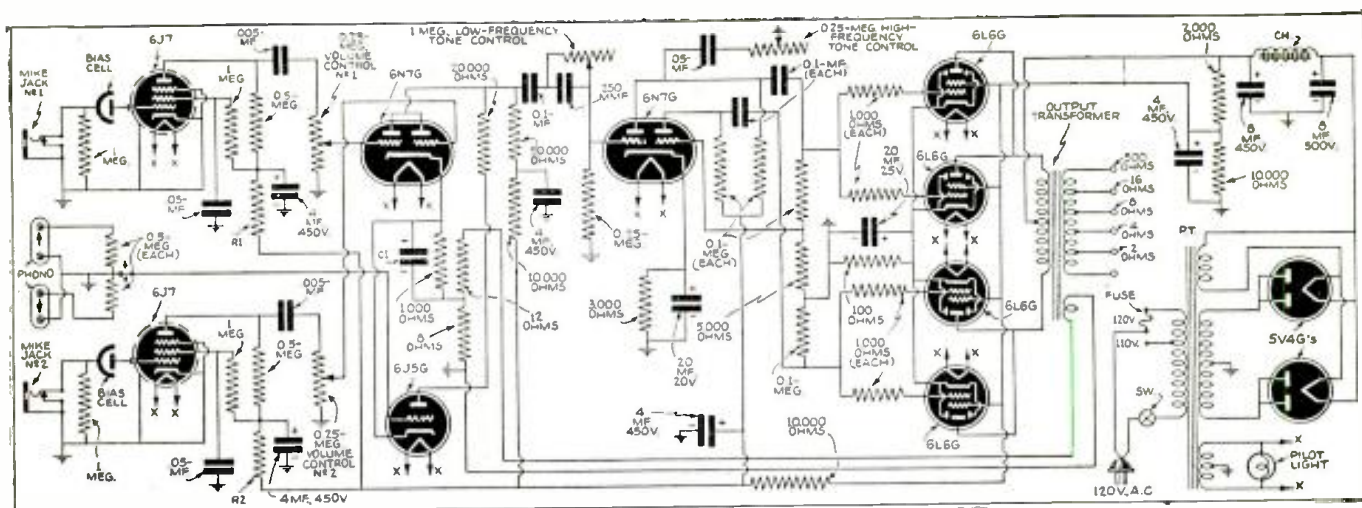

Fig. 4. Diagram of a modern 65 W. P.A. amplifier. Units R1 and R2, 20,000 ohms (each); C2, 200 mf., 12 V. (hum filter); ch., 12 hy., 100 ohms, 200 ma.
**Feedback Voltage-Divider.** In the 65-watt amplifier illustrated in Fig. 4, the feedback voltage is obtained from a separate single-turn, placed on the output transformer. Although a single turn of wire is used for this purpose, even this develops an excessive voltage—and a voltage divider circuit is employed to reduce the value also.